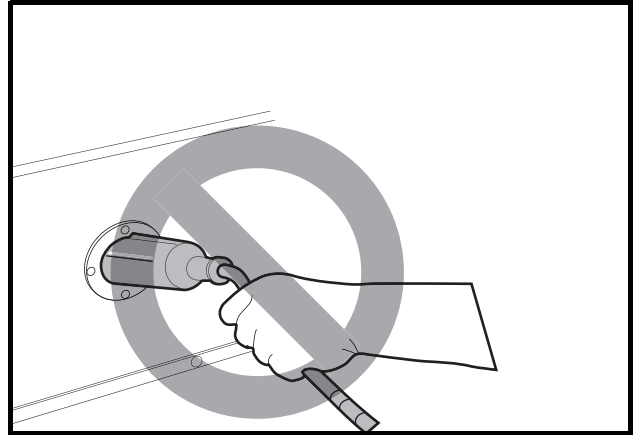

Figure 24-7 Incorrect Insertion of Charger DC Plug
- Do not pull on the DC cord (Figure 24-7, Page 24-13). Do not twist, rock or bend the plug. To disconnect the charger plug from the vehicle receptacle, grasp the plug by the handle and pull the plug straight out of the receptacle.